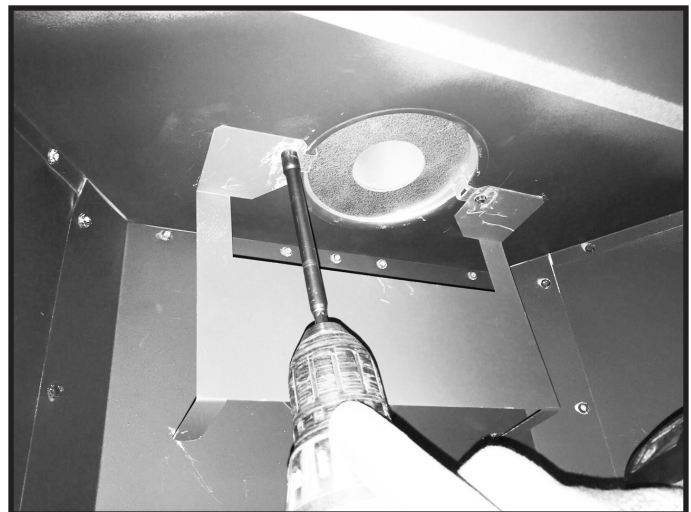

Figure 4.20 31-60 Ft. Vertical Run
- The top vent flue baffle will be turned to install inside for 31-60 ft. vertical runs of vent. See Figure 4.20.